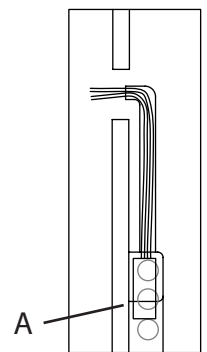

Fig. 9
2. The LED driver (A) must be installed in a remote and accessible location near the fixture in accordance with local electrical code (Fig. 9). Make appropriate electrical connections using wire nuts:
- a. Connect the LED driver's (A) live wire to the live branch circuit conductor.
- c. Connect the LED driver's positive (+) output wire to the required length of red wire (not included) to reach the Connector (B).
3. Drill a  $\frac{3}{4}$ " hole (J) in the wall where the Connector (B) is to be installed.
4. Using included Allen key (K), loosen set screws (H) and remove Connector (B) from mounting bracket (C).
5. Pull low voltage wires (F) through off-center hole (G) in mounting bracket (C).